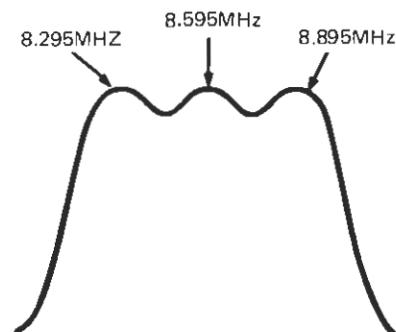

Fig. 8
- 3) Adjust T3, T4 and T5 to obtain the characteristic curve shown in Fig. 8.